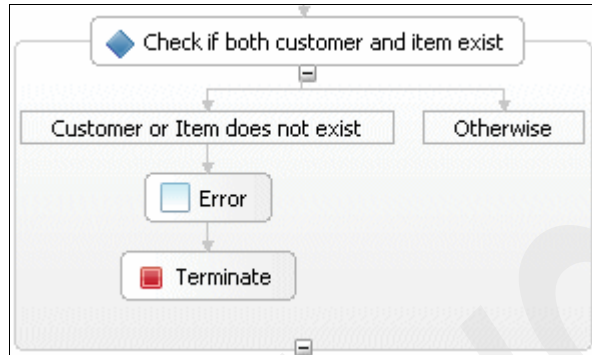

Figure 3-32 Customer of Item does not exist logic of Choice activity
- b. Drag a Terminate activity below Error, as shown in Figure 3-32.